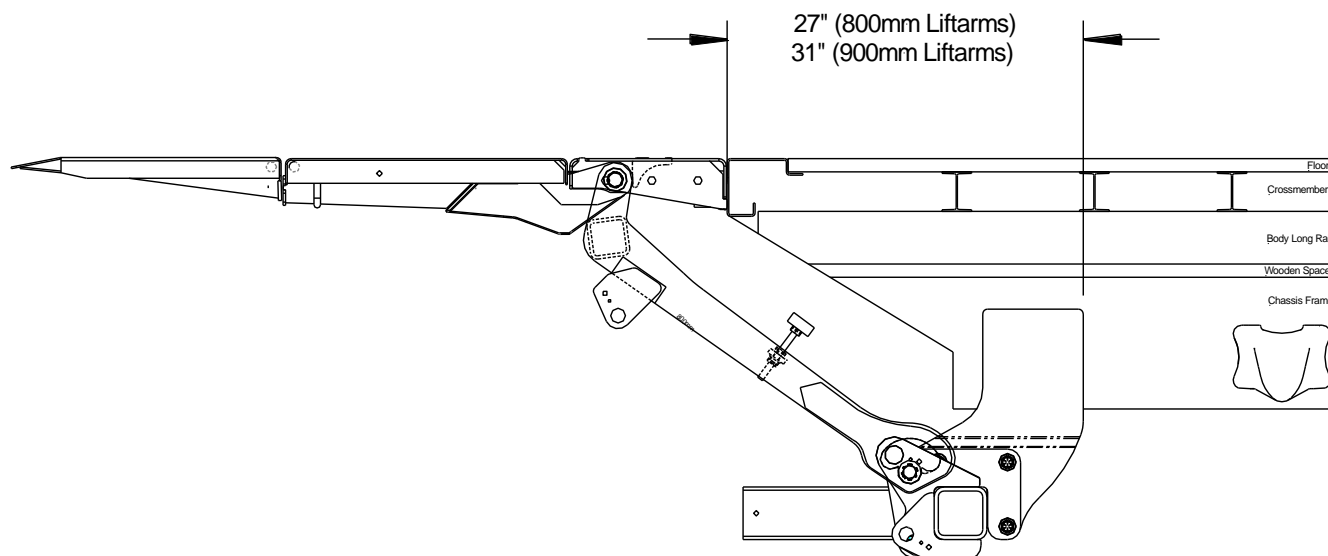

Fig.6
- Minimum clearance required for an ILP liftgate to install on a vehicle is 27" of clearance for 800mm liftarms, and 31" of clearance for a 900mm liftarm. Clearance area should be free of any obstruction that will prevent the installation of the liftgate, **Fig.6**.